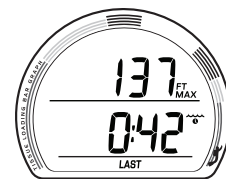

Fig. 96 - GAUG SURF ALT 1
**GAUG SURF ALT 1**, information includes (Fig. 96):